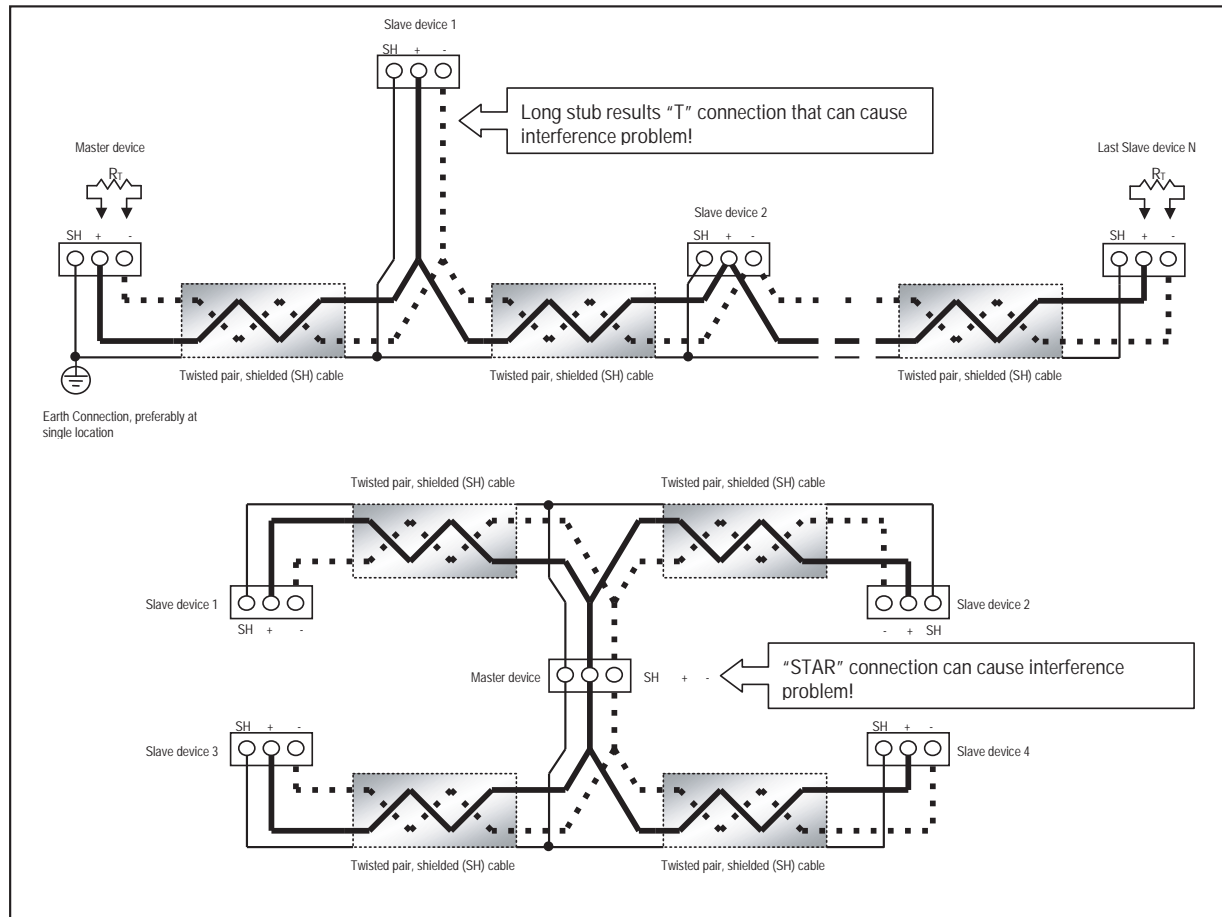

Figure 5.6: Incorrect "T" and "Star" Topologies
- Avoid both “Star” and “Tee” connections (see Figure 5.6).